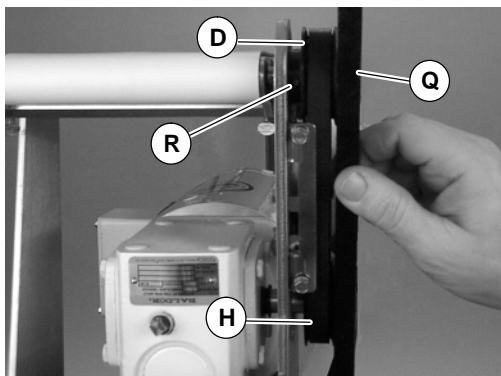

Figure 7
6. Using a straight edge (Q of Figure 7), align driven pulley (D) with drive pulley (H). Tighten driven pulley set screws (R).